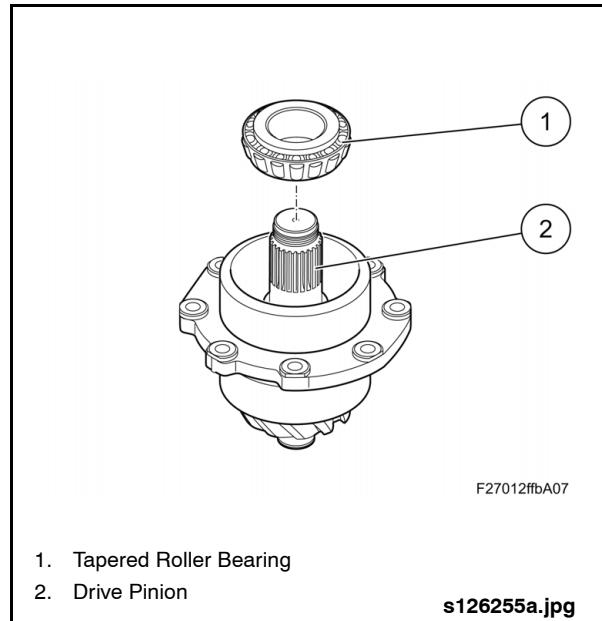

Fig. 2-101: Installing Outer Tapered Roller Bearing
2. Install the tapered roller bearing on the drive pinion gear, ensuring it is fully seated. See "Fig. 2-101: Installing Outer Tapered Roller Bearing" on page 78.